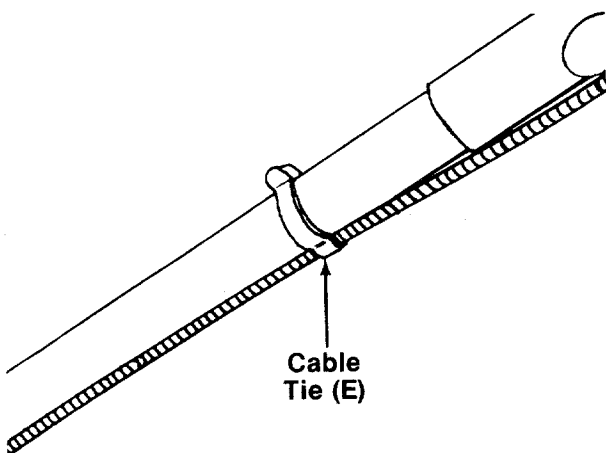

FIGURE 11.
14. Secure throttle control cable and blade brake cable to upper and lower handles with cable ties (E) provided. See figure 11.
15. Insert plastic plug (G) into hole in the top rear of the deck by slipping one end of plug into hole, then pressing down on the other end of plug.